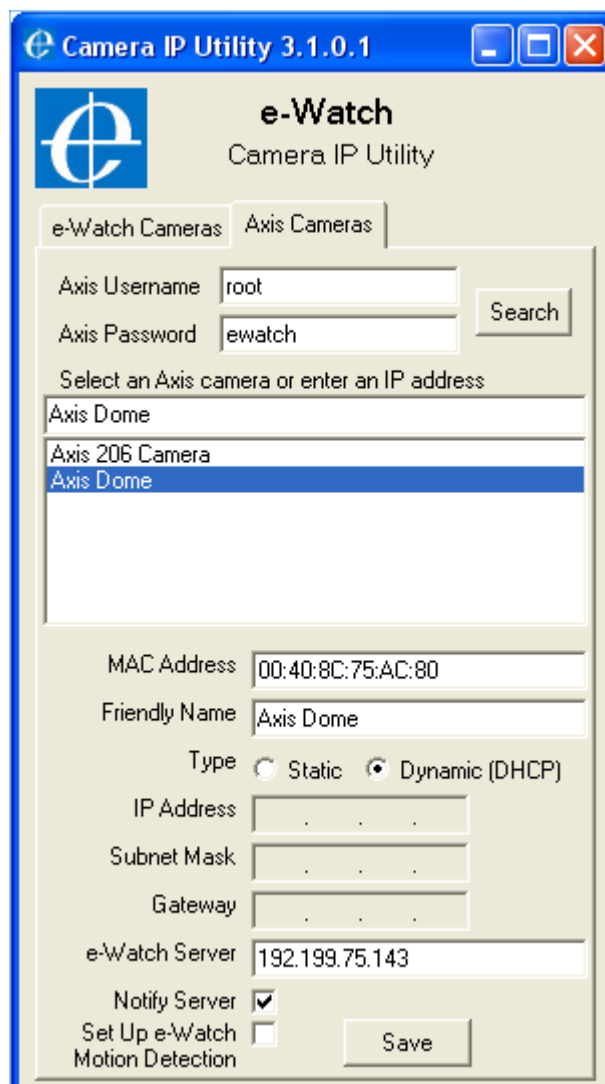

Figure 4-4. Connecting Axis Camera Using e-Watch Camera IP Utility
You can use the e-Watch Camera IP utility to connect Axis cameras if the operating system on the e-Watch Service does not support SSDP (e.g. Microsoft Windows Server 2003). See Figure 4-4.
- Figure 4-4. Connecting Axis Camera Using e-Watch Camera IP Utility 12